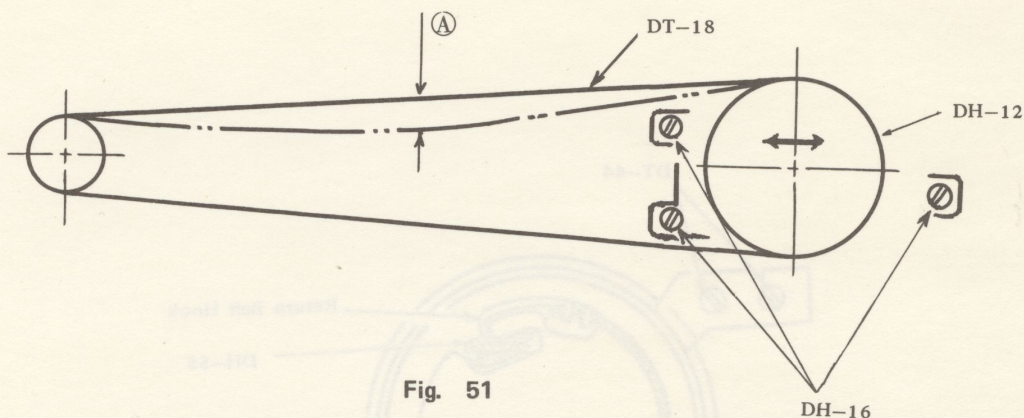

Fig. 51
- (6) Adjust DH-12 (Return Drum) with moving back and forth under loosening DH-16 (Screw) to obtain 4 to 6 mm of Belt slack at the center portion with applying 100 g of load onto the center portion of DT-18 (Timing Belt). (Fig. 51)
- c) Make sure no change in the timing of Carriage Return Release (namely the dimension (A) in the previous paragraph 5).